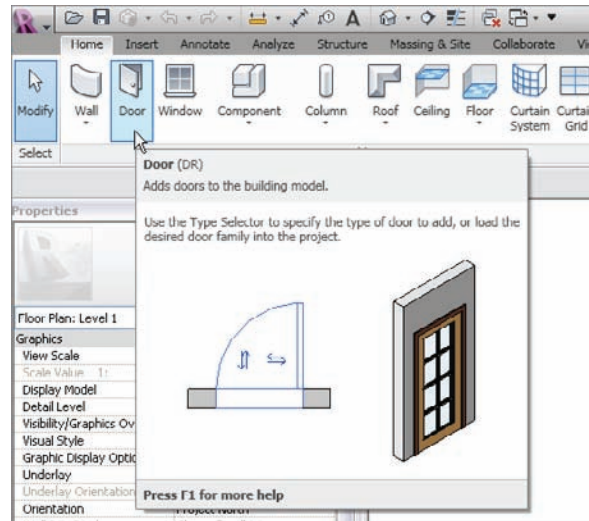

FIGURE 2.65 Adding a door
3. On the Home tab, click the Door button (see Figure 2.65).